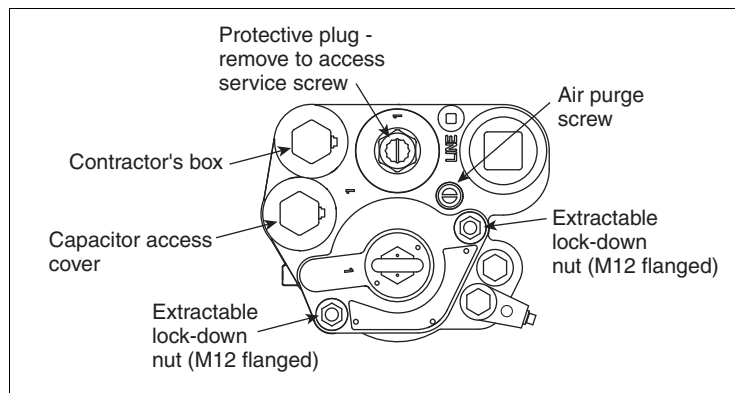

Figure 31. Extractable lock-down Nuts
2. Remove the two extractable lock-down nuts and discard them (see Figure 31). The springs on the lock-down studs between the extractable's flange and the manifold will push it up, breaking the seals.
24. Turn the air purge screw 2 - 3 turns counterclockwise (see Figure 31).
30. Turn the air purge screw 2 - 3 turns counterclockwise (see Figure 31).